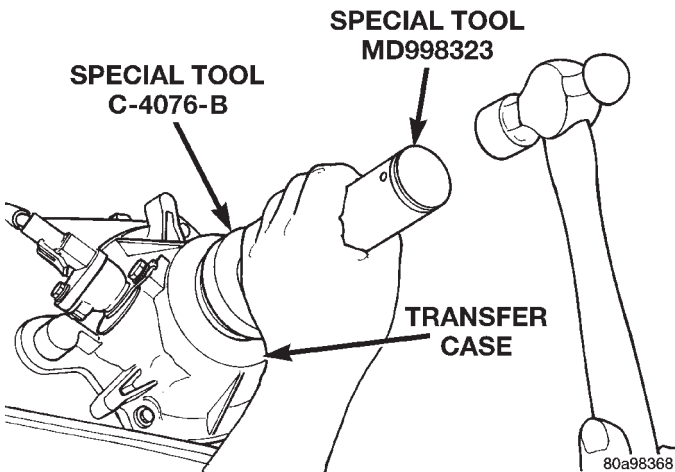

Fig. 78 Rear Seal Installation
- (6) Slide Installer C-4076-B onto seal protector with the recessed side of the tool toward the seal. Drive seal into rear bearing retainer with installer C-4076-B and handle MD-998323 (Fig. 78).
- (7) Install rear slinger with installer C-4076-A and handle MD-998323 (Fig. 78).